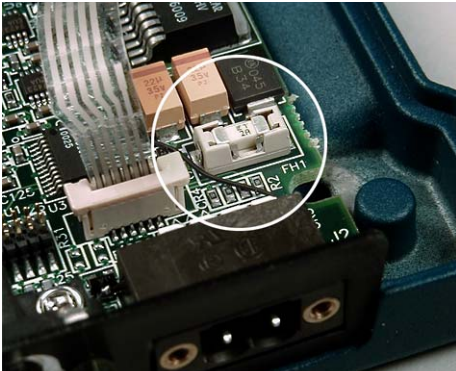

Figure 17.
4. Locate the fuse holder assembly behind the power connector. (See Figure 17).